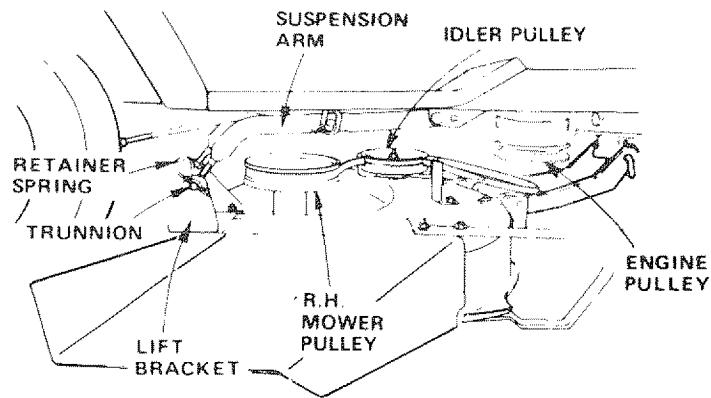

FIGURE 8
- f. Slide trunnions through lift bracket holes and secure with retainer spring (Fig. 8).
- g. With belt routed around R.H. mower pulley and idler pulley, roll belt over engine pulley (Fig. 8). Drive schematic decal on mower housing.